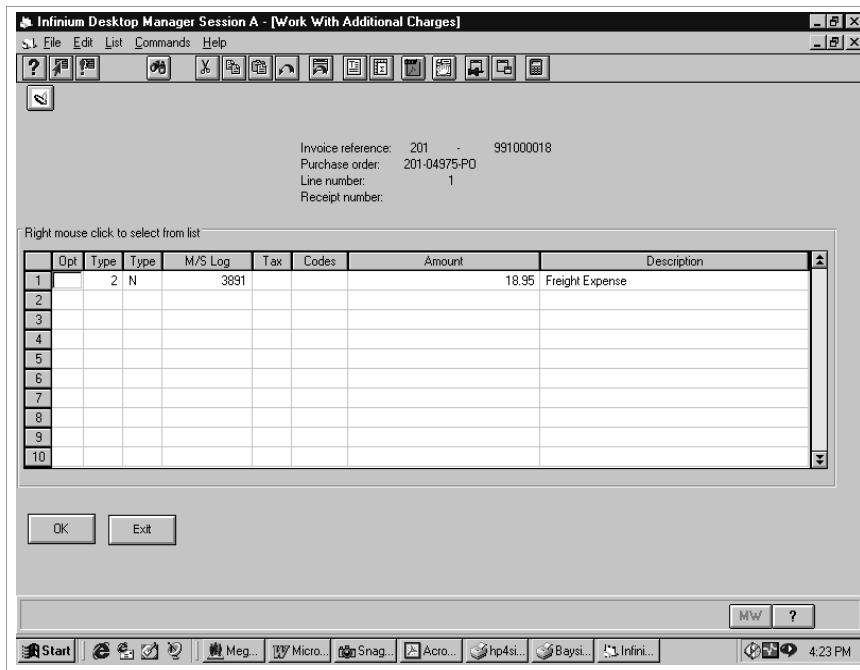

Figure 6-8: Work With Additional Charges screen
- 2 Select **Additional charges** or type **9** and press Enter. The system displays the screen shown in Figure 6-8.
- 9 Press Enter again. The system returns you to the Work with Additional Charges screen illustrated in Figure 6-8.